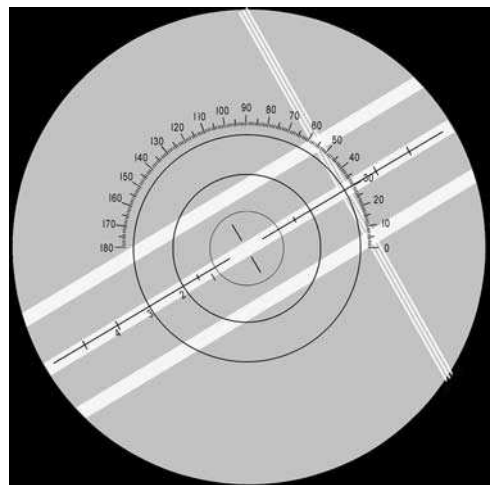

Fig. 11
4. Rotate the prism scale until the line of the scale passes through the center of the target. (Fig. 11)